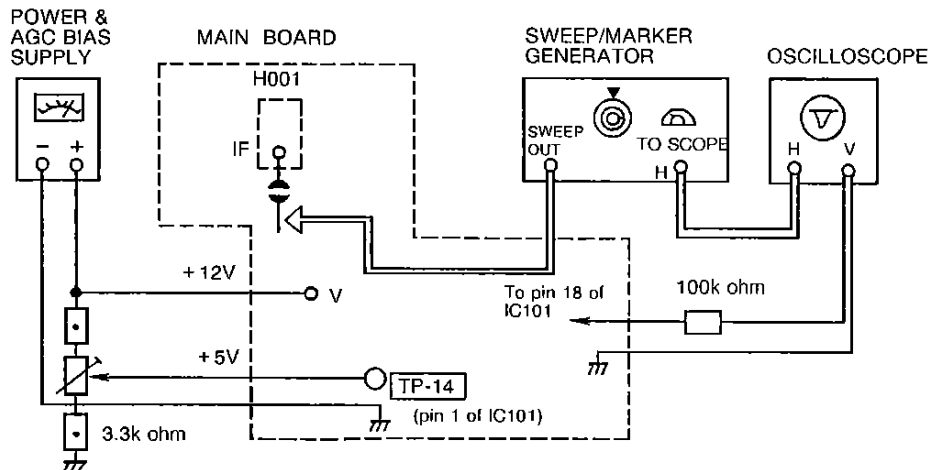

Figure 7. Picture IF Sweep Alignment
- GENERAL..... Refer to figure 7 for test equipment connection.
- PRELIMINARY STEPS 1. Disconnect the solder link (See figure 7.) on the foil side of the Main Board.
- SWEEP/MARKER GENERATOR..... Connect to IF circuit as shown in figure 7.